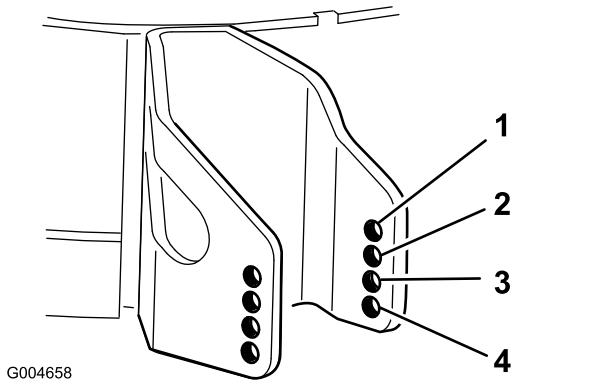

Figure 46
4. Select a hole so that the anti-scalp roller is positioned to the nearest corresponding height-of-cut desired (Figure 46).